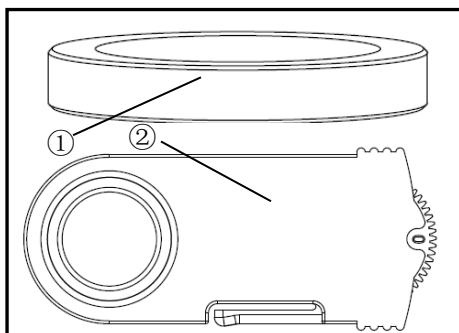

Fig.38
9.1.1 Polarization Set (Fig.38)